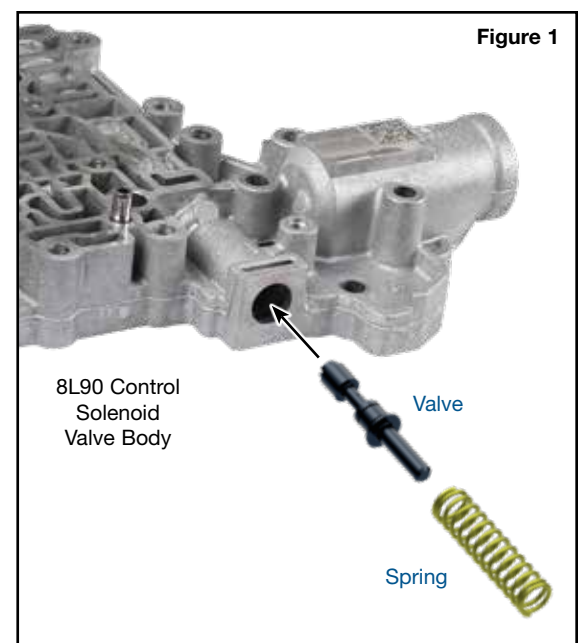

Figure 1
- Install the Sonnax converter feed limit valve into the bore (**Figure 1**).